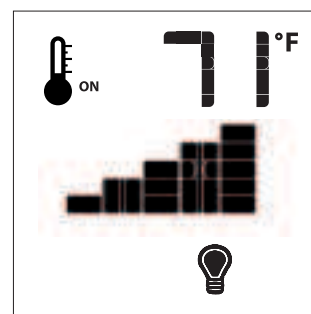

Figure 16
The intensity of the output can be adjusted through six (6) levels. Use the Up/Down Arrow Keys (fig.1) adjust the output level (fig. 16). A single "beep" will confirm reception of the command.